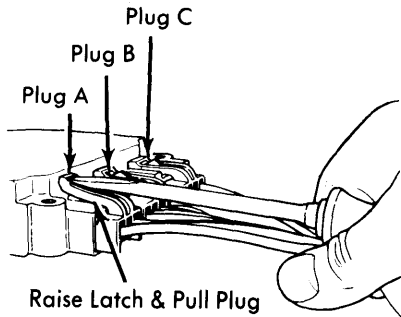
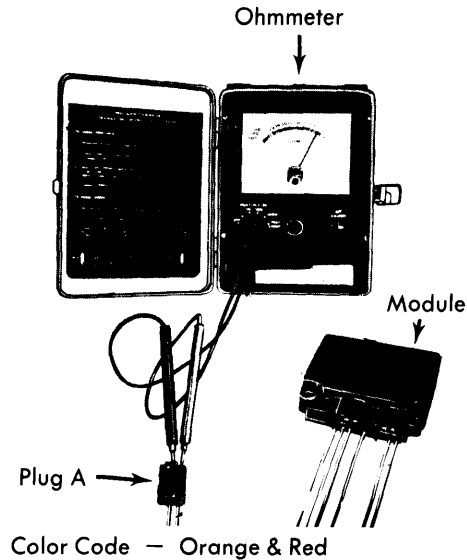
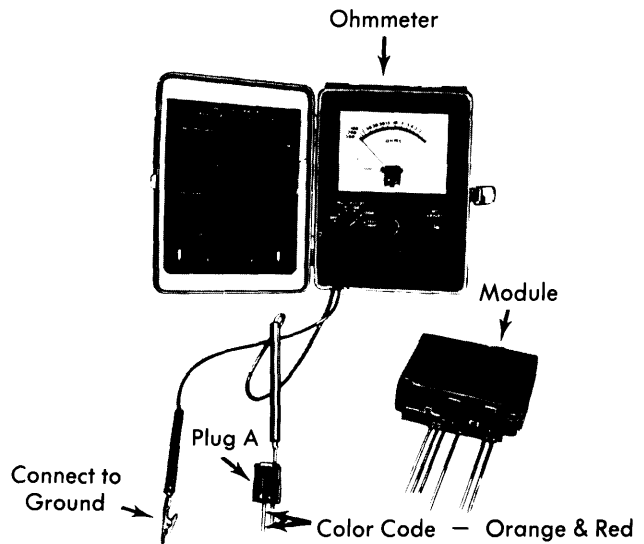

Fig. 2 Removing Plug From Control Module
Fig. 3 Testing Sensor Circuit Resistance
Fig. 4 Testing Resistance of Sensor Circuit to Ground
**Sensor Test** — Remove plug A from module (see Fig. 2). Connect an ohmmeter between pins two and three of connector (see Fig. 3). Resistance should be 2400-3200 ohms. Connect ohmmeter between ground and either connector pin (see Fig. 4). Resistance should be infinite. If resistance is not to specifications, remove connector from sensor at rear axle and repeat resistance checks at terminals of sensor. If resistance is still not to specifications, replace sensor. If resistance is correct at sensor but not at plug, problem is in wiring harness.